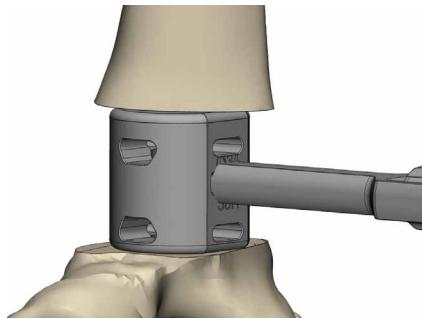

Fig. 5.2
**5.2** If reaming was performed for a Half Pill implant, the trial footprint should match the reamed anatomy. The trial footprint should provide adequate bone coverage between the trial and anatomy, maximizing cortical bone contact where applicable, without extending beyond the bone margins to avoid interaction with the adjacent soft tissues. (fig. 5.2). The trial height should provide bone contact both proximally and distally to ensure adequate apposition of the Ossera™ AFX to bone. With the trial in place, approximate soft tissue closure to ensure the implant will not require excessive tension on the soft tissue envelope.